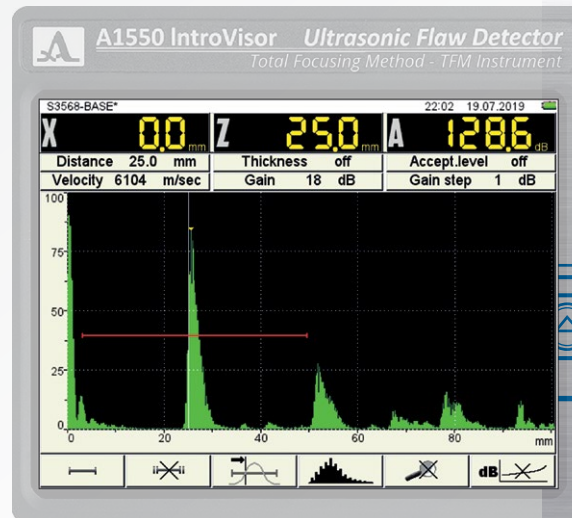

FIGURE 26
14) **Place the transducer on the thick step.** Read the Z-value displayed on the measurement bar. In the example shown in Figure 26, it is 25 mm.